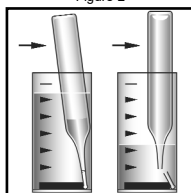

Figure 3
For CHEMetrics photometers, follow the **Setup and Measurement Procedures** in the operator's manual. For spectrophotometers, set the wavelength to 660 nm. A sealed ZERO ampoule is supplied in this kit for zeroing when the sample is colorless and not turbid. For improved accuracy with colored or turbid samples, Sample Zeroing Accessory Pack, Cat. # A-0503 is recommended. Using the sample cup, snap the tip of the A-0503 ampoule in the sample (see figure 3 below). Invert the ampoule to mix. Dry the ampoule and use it in place of the supplied ZERO ampoule to zero the instrument.
3. Immediately place the ampoule, tip first, into the sample cup and snap the tip. The ampoule will fill leaving a bubble for mixing (fig. 3).
6. Insert the Vacu-vial ampoule into the photometer, flat end first, and obtain a reading in ppm (mg/Liter) sulfide (S).